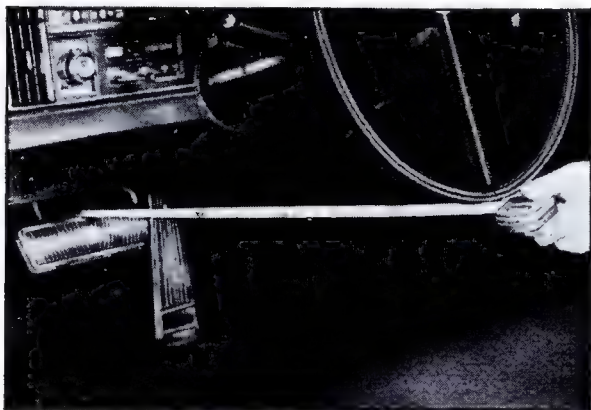

Fig. 5-31 Checking Brake Pedal Height
3. Unreel tape to rim of steering wheel, Fig. 5-31.